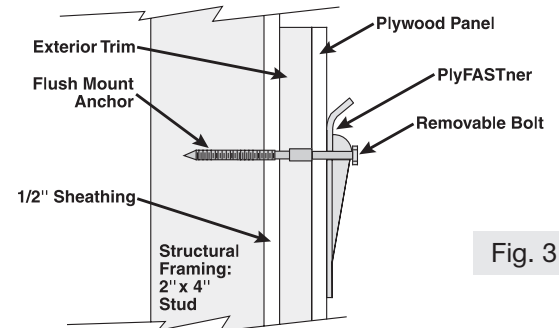

Fig. 3
7. Hang plywood panel over bolts. Position PlyFASTners over bolts and slide each of the four PlyFASTners into place (Fig. 3). Adjust the depth of the Anchor with the nut driver and Grade 8 bolt, if needed, so that the system is tight and bolt head is 3/8 of an inch from the top of the slot. (Fig. 7)